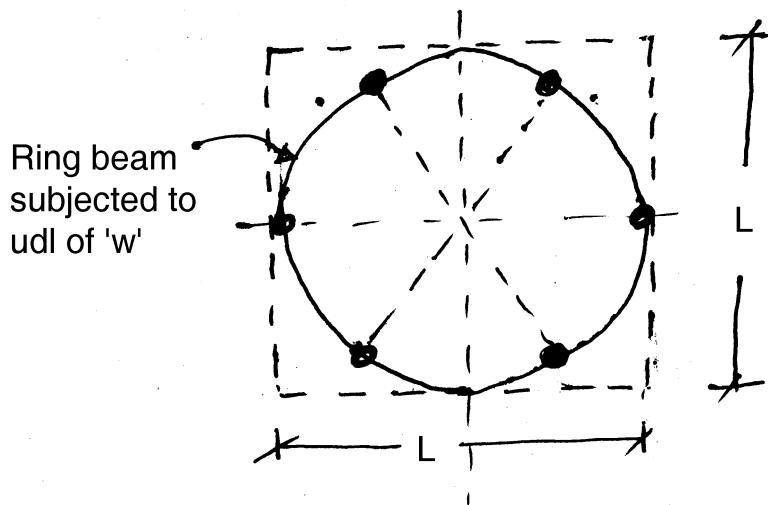

Fig. 3
2. A circular ring beam is supported on 6 columns symmetrically placed forming a square of side L. The ring beam is subjected to a UDL of 'w' throughout the length. Draw BMD and TMD. Refer Fig. 3.